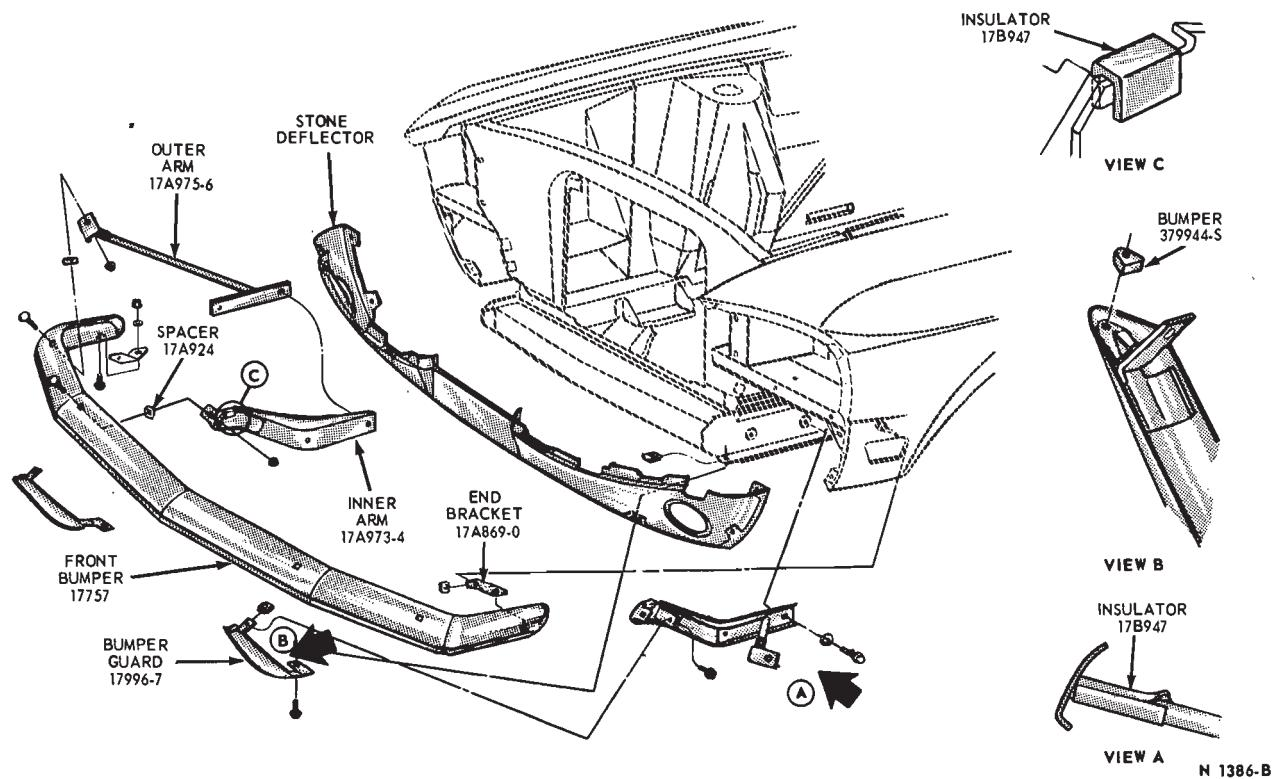

FIG. 14—Mustang Front Bumper Installation
5. Remove the bumper bar-to-inner arm and the bumper bar-to-outer arm retaining bolts from each side of the bumper (Fig. 14). Remove the bumper and end brackets as an assembly.
frame lower side rail (Fig. 14).
2. Remove the screw and washer retaining the bumper guard to the inner arm (Fig. 14) and remove the guard assembly.
3. Transfer the nut and retainer assembly and the rubber spacer to the new bumper guard (Fig. 14, View B).